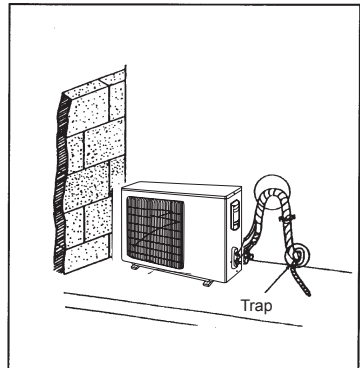

Fig.4.16
- (1). Taping should be done from lower to the upper part.
- (2). All pipes are bound and taped together and also should be trapped to prevent water from returning to the room (See Fig.4.16)
- (3). Restraint all pipes to the wall with saddles.